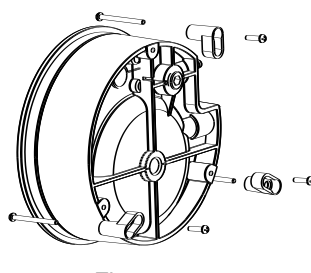

Figure 2
(2) As shown in Figure 2, take the 3 mounting adapters and 3 short screws from the accessory, fix the adapters on the bottom of the gage. Then take the 3 long screws and securely fix the gage on the mounting surface.